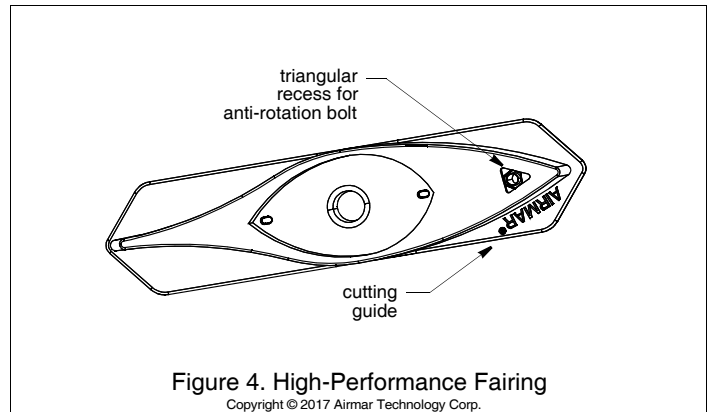

Figure 4. High-Performance Fairing
3. Place the fairing on the table, so the cutting guide rests against the fence (Figure 4). The end with the arrows and triangular